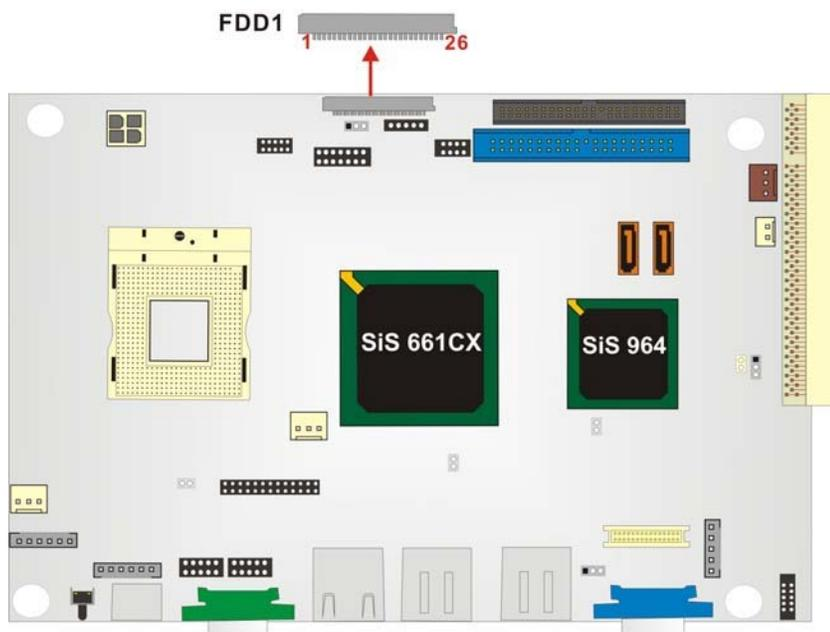

Figure 3-9: FDD Pinout Locations
- CN Location:** See Figure 3-9